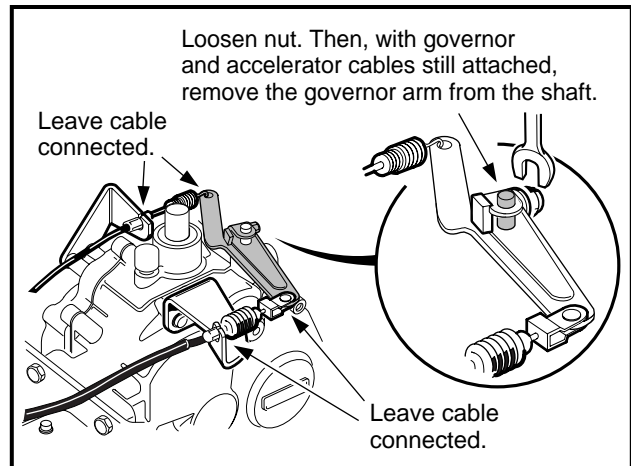

Figure 16-30 Governor Arm
17. Loosen, but do not remove, the governor arm retaining bolt. Remove the governor arm from the shaft (**Figure 16-30, Page 16-13**).